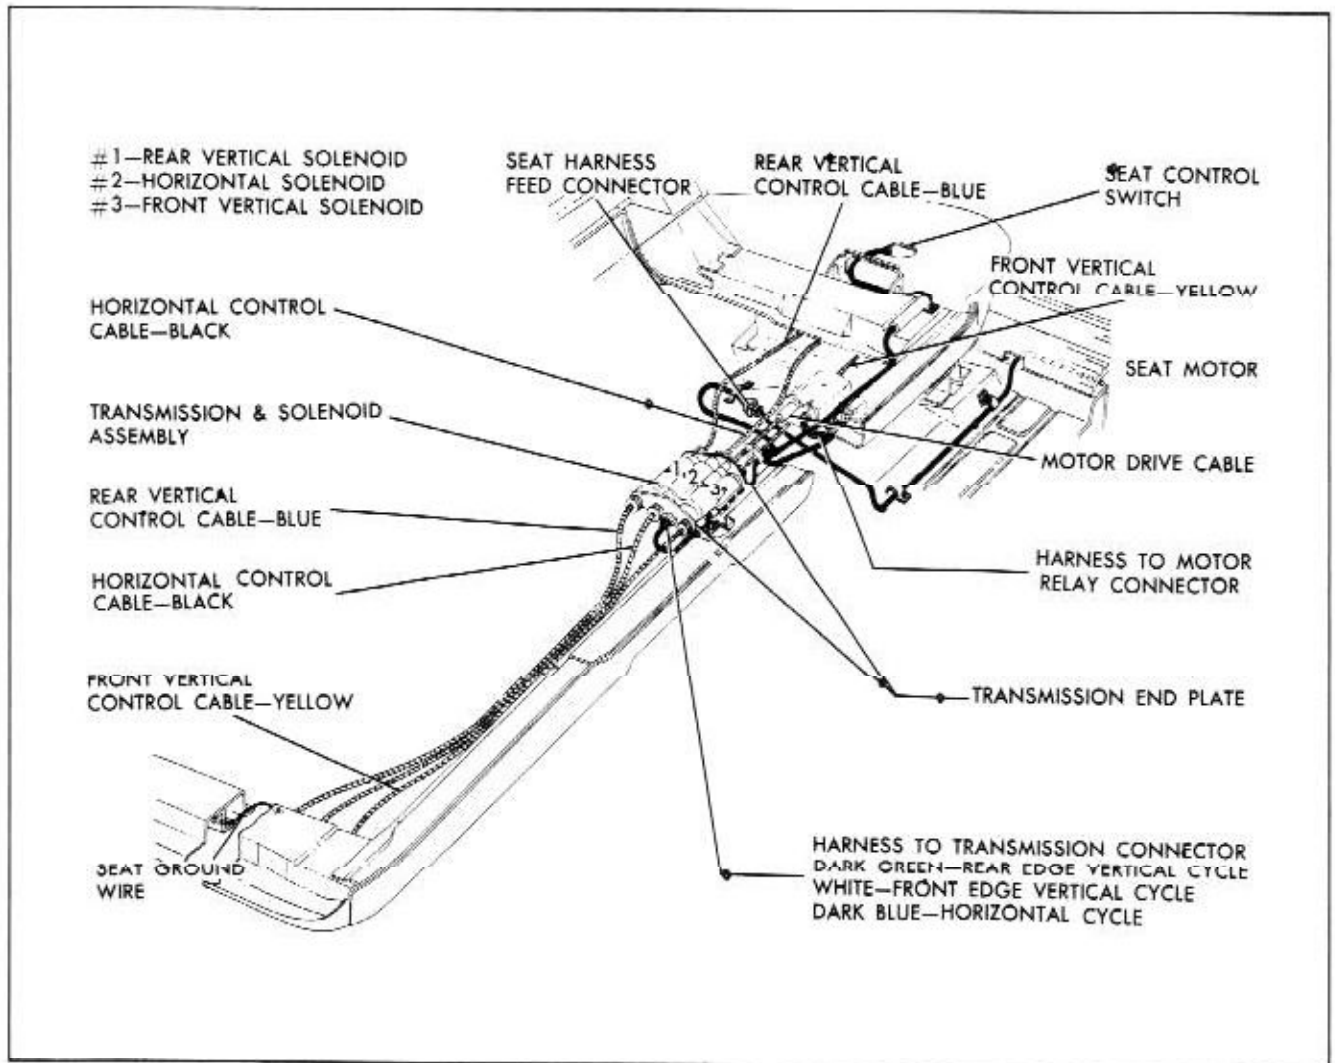

Fig. 17-72 Six-Way Seat Installation
The electrically-operated six-way front seat assembly can be moved forward, rearward, upward, downward or tilted by means of a manually-operated seat control switch. The large center control knob controls movement of the entire seat assembly horizontally or vertically. The smaller forward control knob controls the vertical movements of the front of the seat assembly causing the seat assembly to tilt. In the same manner, the rear control knob controls vertical movement of the rear of the seat assembly. This seat adjuster operating mechanism incorporates a transmission assembly which includes three solenoids and six drive cables leading to the seat adjusters. Solenoid No. 1 controls the vertical movement of the rear edge of the seat. (Fig. 17-72) Solenoid No. 2 controls the horizontal movement of the seat. Solenoid No. 3 controls the vertical movement of the front edge of the seat. In addition to the six seat adjuster drive cables at the transmission assembly, a motor drive cable is installed from the motor to the transmission assembly. (Fig. 17-72) When one of the control switch buttons is actuated, the motor and one of the solenoids are energized simultaneously. The solenoid plunger engages the large gears with a driving gear. The
2. Detach the three power drive cables from adjuster to be removed. (Fig. 17-72)
4. To install horizontal and vertical cables, reverse removal procedure. Make sure cables are installed to correct gear nuts. (Fig. 17-72)
2. Disconnect wire harness connector from transmission. (Fig. 17-72)